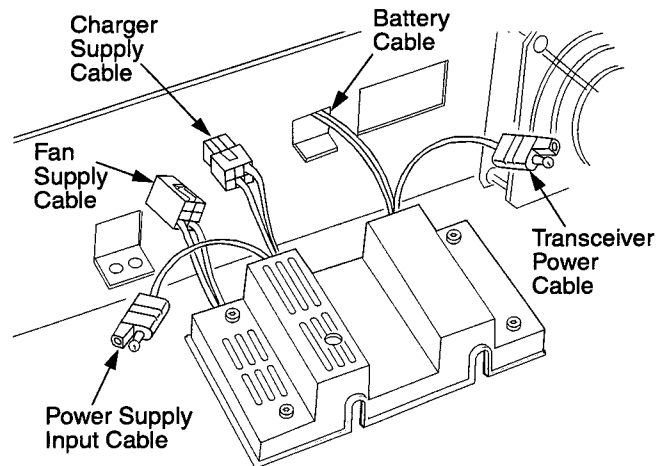

Figure 2-6. Battery Revert
There are three (3) cables with 2-prong "Ford" connectors. One of the prongs of each connector is covered with insulation and the other is bare. Please note that the two (2) longest cables have opposite "polarities". Refer to Figure 2-6.